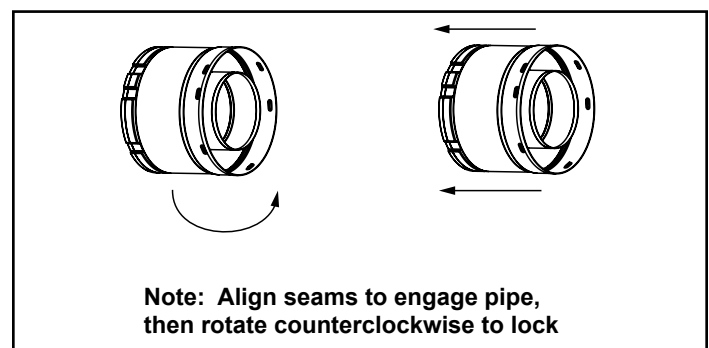

Figure 5.4 - Adding Venting Components
3. Female ends of direct vent pipe/elbows are designed to slide straight onto the male ends of adjacent pipes by orienting the pipe indentations so they match and slide into the entry slots on the male ends, see **Figure 5.4**. Align the seam of the pipe and seam of collar to allow engagement. Rotate the vent component to lock into place. Use this procedure for all vent components. See Figure 10.5. Continue adding vent components, locking each succeeding component into place. Ensure that each succeeding vent component is securely fitted and locked into the preceding component.